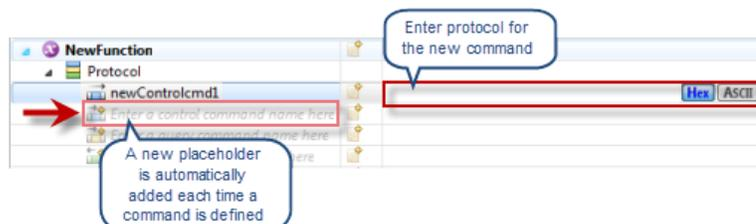

FIG. 75 Entering protocol for new commands
- a. Click in the first cell in the *Functionality* column (labeled "Enter a control command name here") and type a descriptive name for the new Control command. Note that each time you enter a new command name, a row is added to the table directly beneath the cursor position. Enter the command protocol in the *Data* column (see *Defining Device Protocols* on page 36 for details). Repeat to add more Control commands as necessary (FIG. 75):